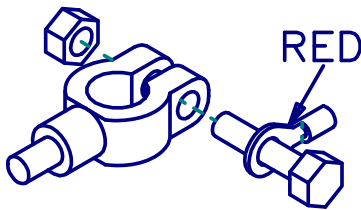

Figure 2 Terminal connection
- c. Attach the red terminal to the positive battery post as illustrated in Figure 2.
- d. Fasten the black terminal to the vehicle chassis or engine block (preferred location). If a suitable location on the chassis or engine block cannot be found, the connection may be made at the battery using the illustration in figure 2.